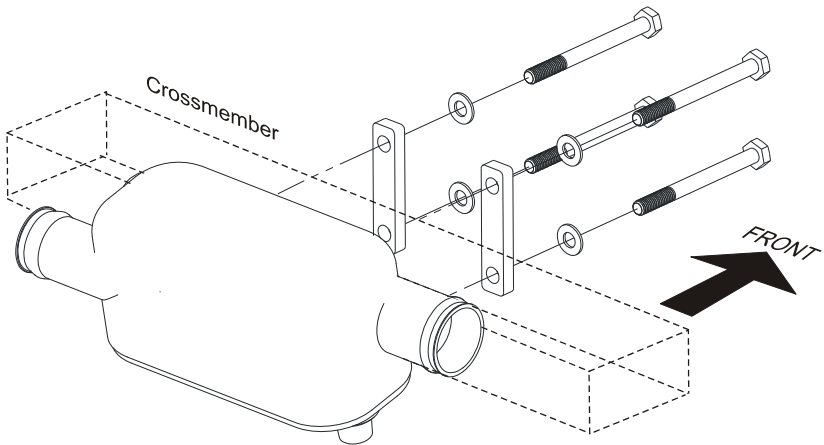

Figure 2.6
- Install bolts through the flat mounting straps (Figure 2.6) and place them on the front of the cross-member on each side of the impact sensor.